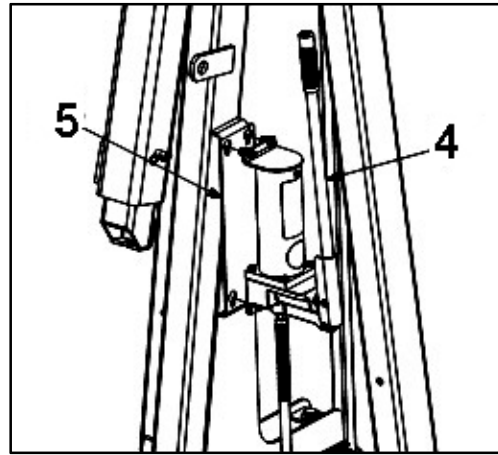

Fig. 3: Align pump to keyhole slots
3. Align the pump [#4] with the keyhole slots in the bracket [#5] on the side of crane as shown in Fig. 3.